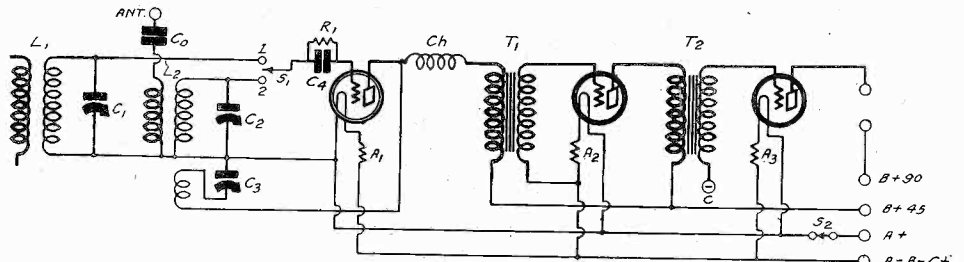

FIG. 730
(1)—See Fig. 730 for the diagram. The designations in this schematic correspond with the picture diagram in the original article.